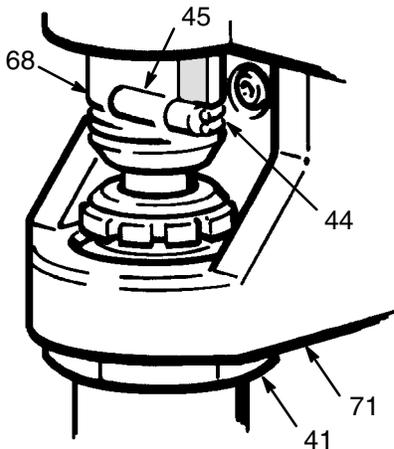

Fig 28-1
**NOTE:** Stop the sprayer at the bottom of its stroke to get the crank (67) in its lowest position. If the crank must be lowered manually, carefully rotate the blades of the fan with a screwdriver.
1. Remove the front cover (59).
2. Unscrew the swivel union (76) from the pump, holding a wrench on the pump intake valve to keep the pump from loosening.
3. Disconnect the pump outlet hose (72) from the displacement pump outlet nipple (40).
4. Use a screwdriver to push up the retaining spring (44). Push the pin (45) out. See Fig 28-1.